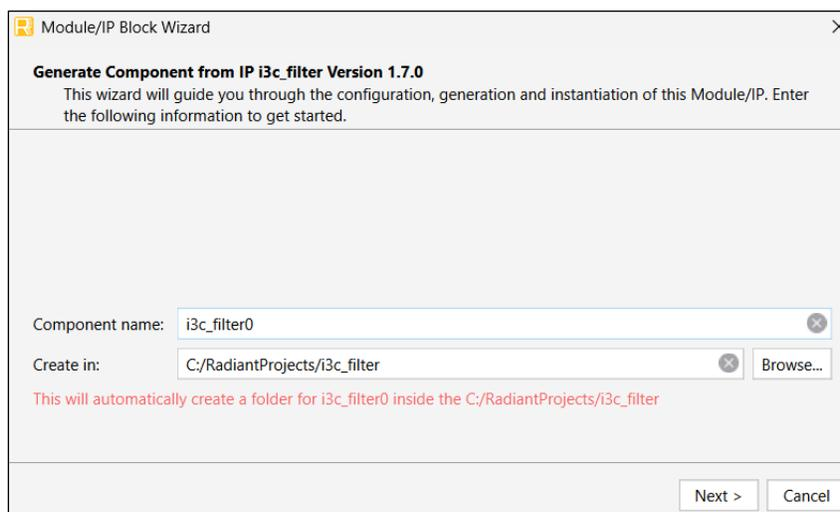
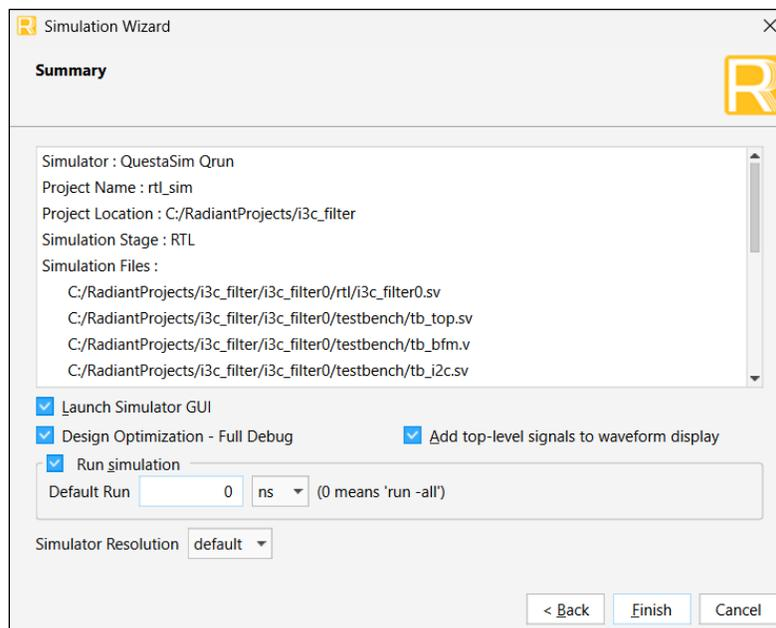

Figure 7.1. Module/IP Block Wizard
Figure 7.7. Simulation Wizard Summary
2. In the **IP Catalog** tab, double-click **I3C Filter** under **IP > Processors_Controllers_and_Peripherals** category. The **Module/IP Block Wizard** opens as shown in Figure 7.1. Enter values in the **Component name** and the **Create in** fields and click **Next**.
- Click **Finish**. All the generated files are placed under the directory paths in the **Create in** and the **Component name** fields shown in Figure 7.1.
Designing with the IP	<ul style="list-style-type: none"> Added a note on screenshots in this section. Updated Figure 7.1. Module/IP Block Wizard – Figure 7.7. Simulation Wizard Summary.